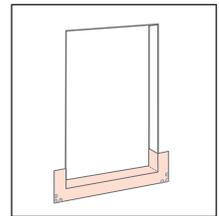

fig. 5
- Fold down onto the face of the exterior wall, it will be necessary to use mechanical fasteners to hold the corners against the wall at the flexed corners. (fig. 5)